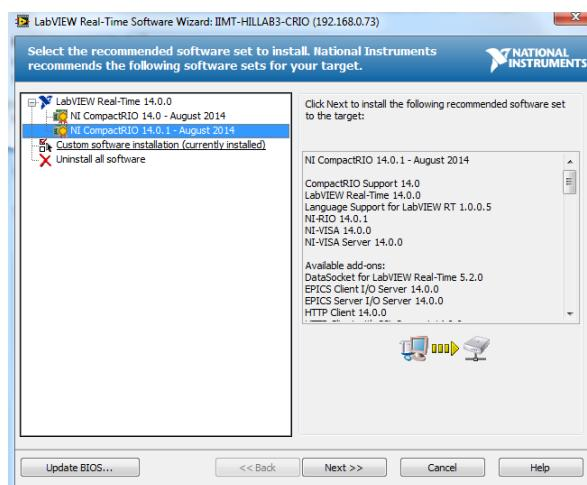

Figure 21: NI MAX - Software Update 1
4. A new window will now open. Choose the option that matches your LabVIEW/Veristand edition (in our case 14.0 or 14.0.1) under LabVIEW Real-Time 14.0.0 and click next. See Figure 21